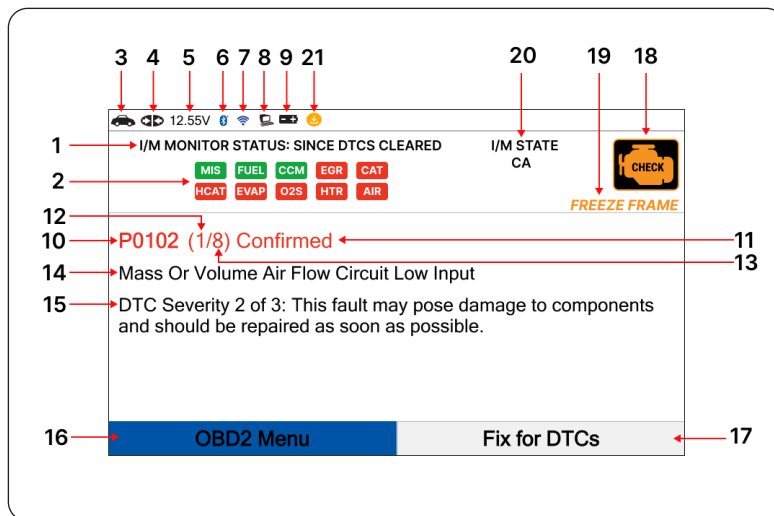

Figure 2. Tablet Display Functions
See Figure 2 for the locations of items 1 through 21 below.